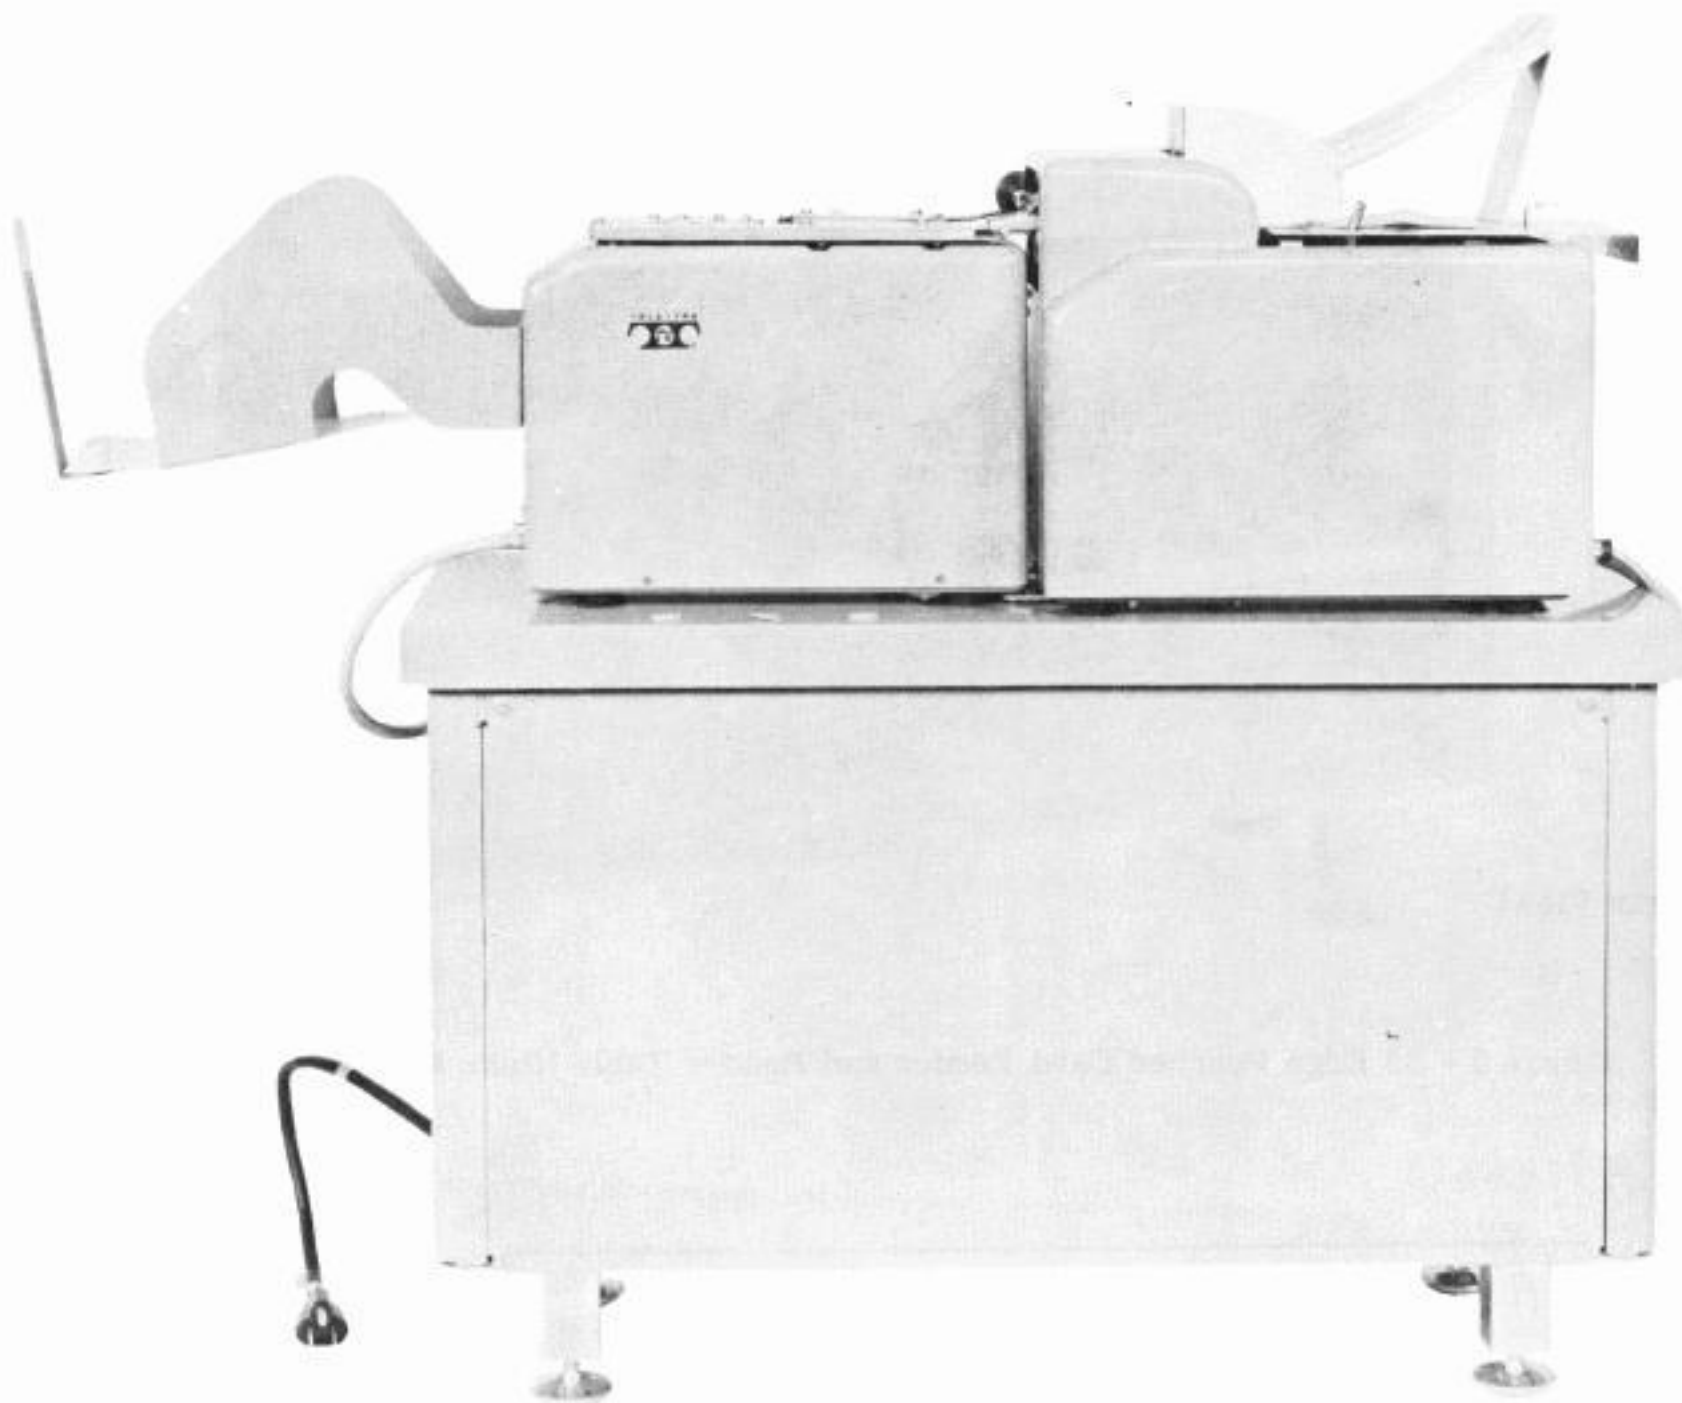

Figure 2 - 35 Edge Punched Card Feeder, Reader and Table (Typical Installation)
1.02 The table provides a stand for the 35 edge punched card feeder and the 35 edge punched card reader. A typical installation is illustrated in Figure 2.
1.05 References to left, right, front, or rear, etc consider the table to be viewed from the front (Figure 1). Normally, depending on the installation, the operator's position is as viewed in Figure 2.
3.06 Route the ac power input cable through the lower opening in the right side of the pedestal for a distance of approximately 3 feet (Figures 2 and 6).
- (b) All cables are connected to their respective units or outlets (Figure 2).